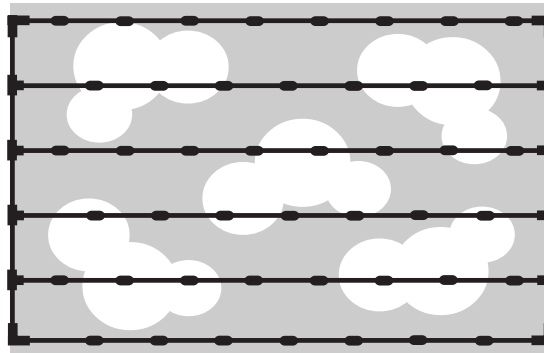

Figure 2-4: Dense planting irrigated with inline emitter tubing
- **Dense plantings** require emission devices that supply a precise amount of water across the entire area. These devices include inline emitter tubing (shown in Figure 2-4) and micro-sprays.